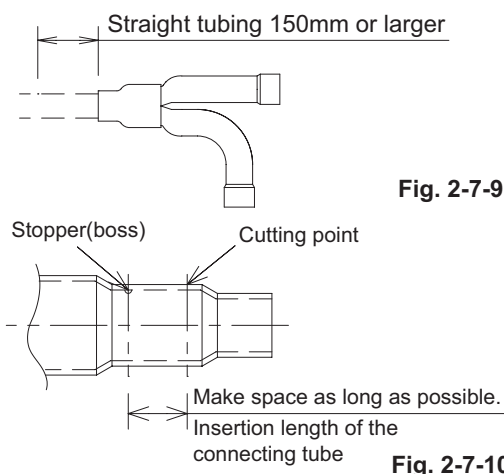

Fig. 2-7-9
- For branching tubes, install 150mm or larger (including reducer) straight tubing up to the point where the tube branches (or after the point where the tubes join together). (Fig. 2-7-9)